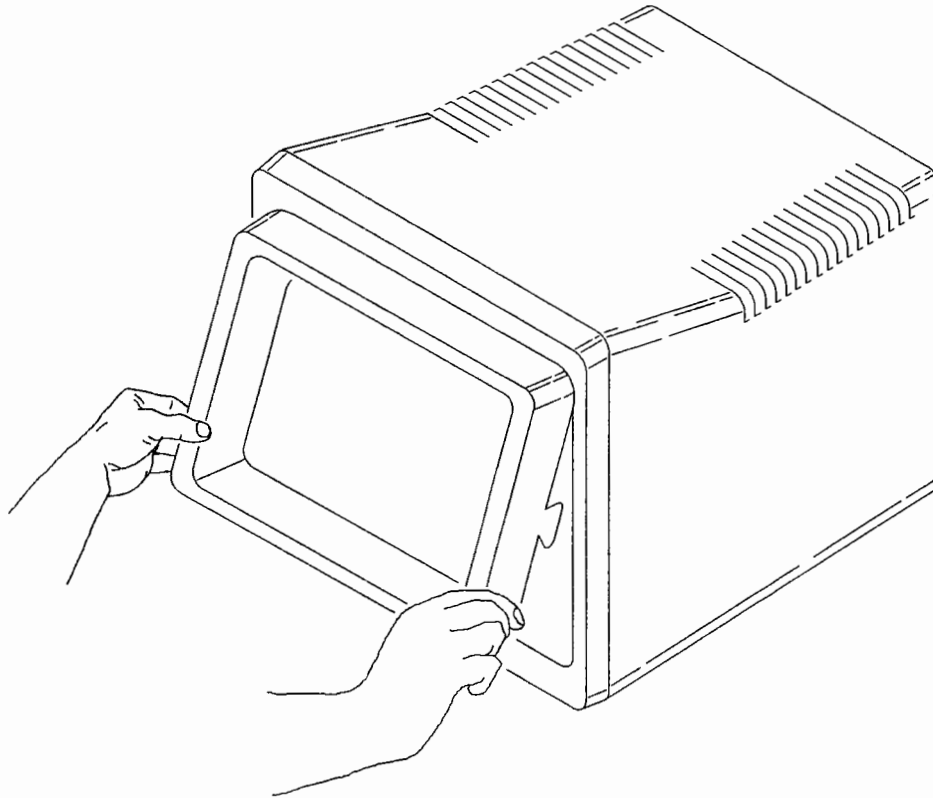

Figure 6-6.
7. Placing your thumbs under the lower corners of HP Touch, push up and toward the monitor until HP Touch snaps firmly into place. Make sure that the cable does not protrude from HP Touch. If it does protrude, pull out the bottom edge of HP Touch, push the cable under and snap HP Touch back into place (Figure 6-6).